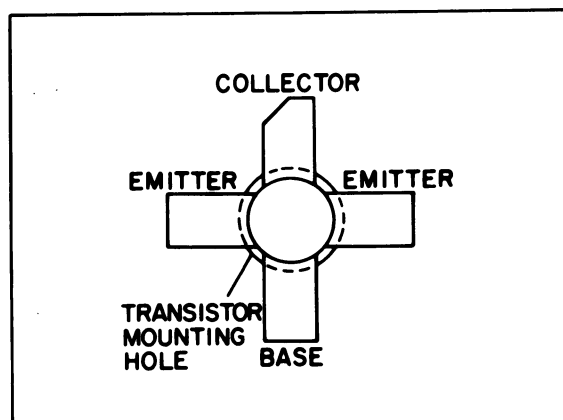

Figure 5 - Lead Identification
4. Trim the new transistor leads (if required) to approximately 3/8-inch lengths. Cut the collector lead at a 45° angle for future identification (see Fig. 5). The letter "C" on the top of the transistor indicates the collector.